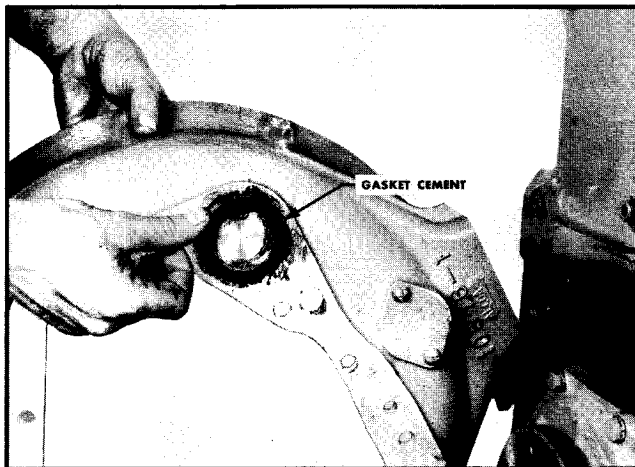

Fig. 12-56. Cementing gasket in camshaft counterbore
1. Clean the mating surfaces of the flywheel housing and the cylinder block of all dirt and burrs. Cement gasket in camshaft counterbore of flywheel housing. Fig. 12-56.